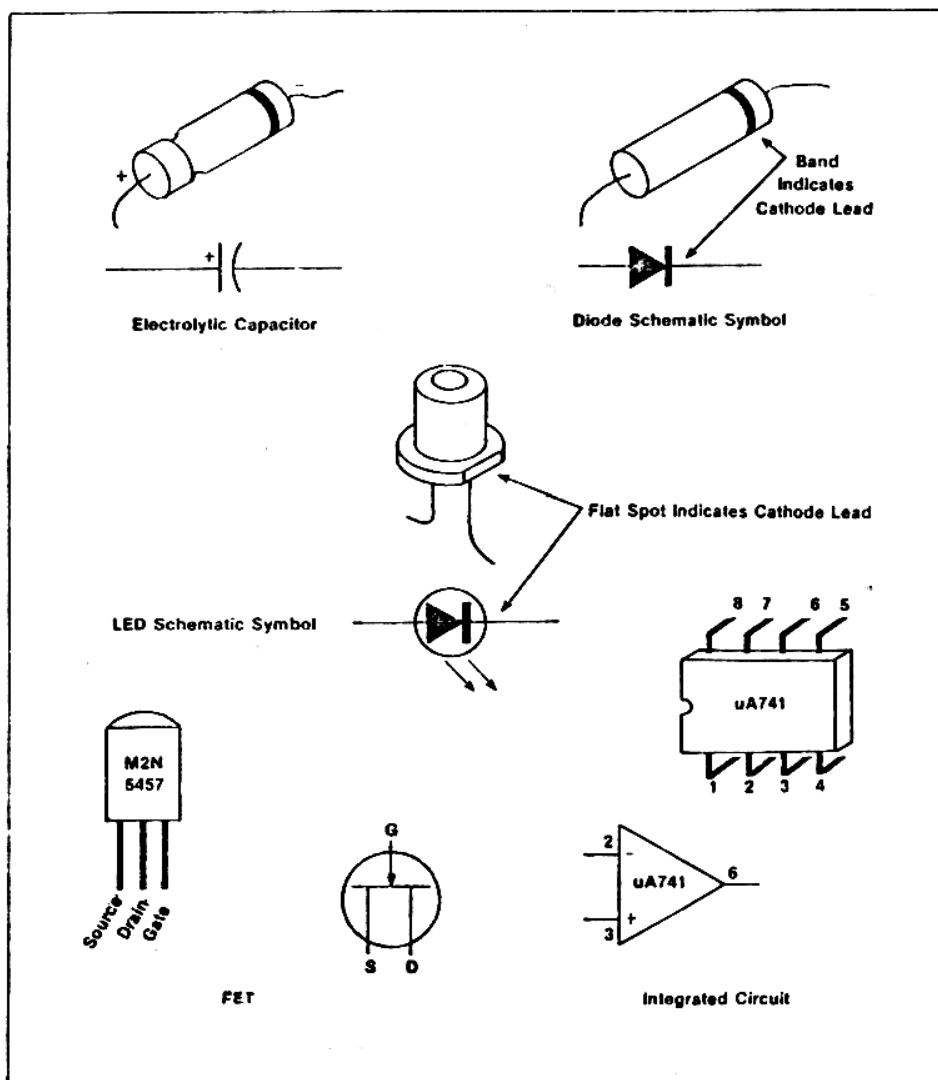

Fig. 1: Component polarities and schematic symbols.
6) Pay attention to polarity. For the noise gate project, this applies to the LED, the three diodes, the FET and C2, the 22 microfarad electrolytic capacitor. Most caps have an indent at one end, which corresponds to the (+) sign on the circuit board and the schematic. Alternately, a cap may have a band at one end, or a minus sign, both of these corresponding to the negative end. The LED has a flat side on its plastic case, indicating the cathode lead, which corresponds to the line on the schematic symbol. This symbol also appears on the circuit board. Similarly, the band on the 1N4148 diodes is equivalent to the line on the schematic and parts layout diagram. See Figure 1 for examples of these components and